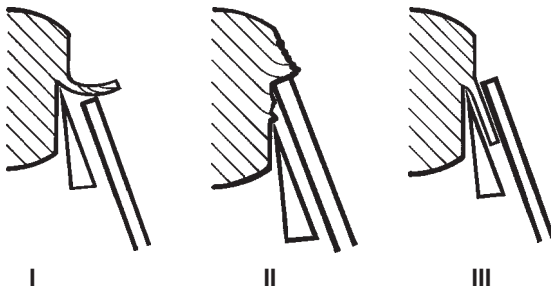

Fig. 21.1
**The anti-roll guide is correctly adjusted when the section smoothly slides down between the anti-roll plate and the blade (see Fig. 21.1)!**